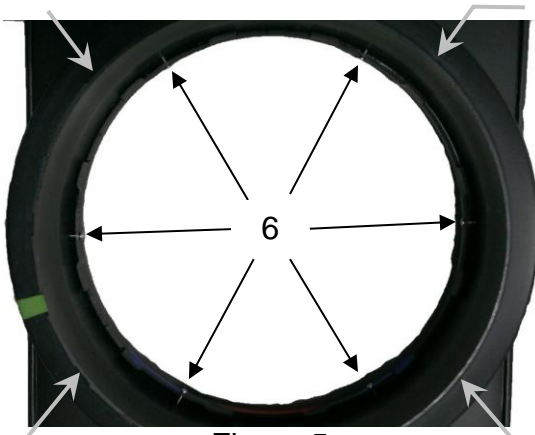
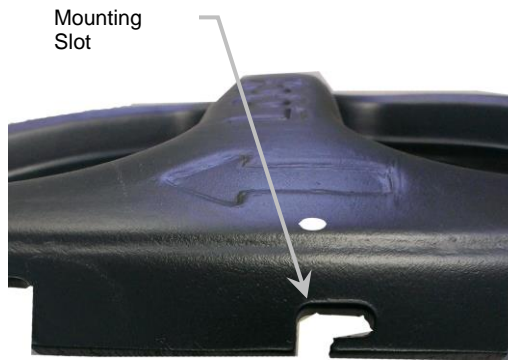
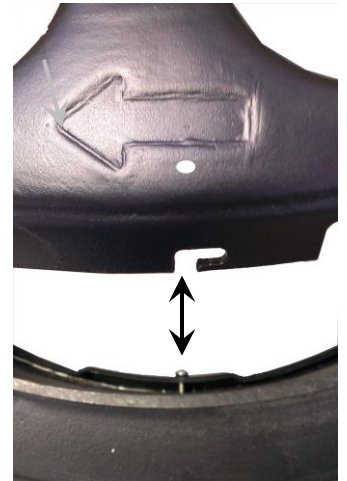

Figure 5
Figure 6
Figure 7
- 3.) With the (4) pre-drilled holes upward (Fig. 5) & (Fig. 10), center the riser pipe on the adapter flange so the gap is even all of the way around. Do not apply downward pressure while adjusting the gap. When the even gap is achieved, lightly lower the riser pipe onto the butyl rope. As required, make final adjustment and apply firm downward pressure to seat the riser pipe into the butyl rope. Apply the pressure all around the riser pipe every 30 degrees.
- 4.) Locate the six (6) mounting holes on the inside perimeter of the adapter flange. Install six (6) screws to attach the riser pipe to the adapter flange. Drive the screws until the head slightly compresses the adapter flange (Fig 3.). When properly tightened there will be approximately a 1/4" gap between the riser flange and the riser pipe (Fig. 4). All six screws must be visible when complete (Fig. 5).
- 6.) Locate the six mounting slots on the safety barrier (Fig. 6). Insert the safety barrier into the riser ensuring the six mounting slots align with the 6 screws (Fig 5), (Fig. 6) & (Fig. 7).